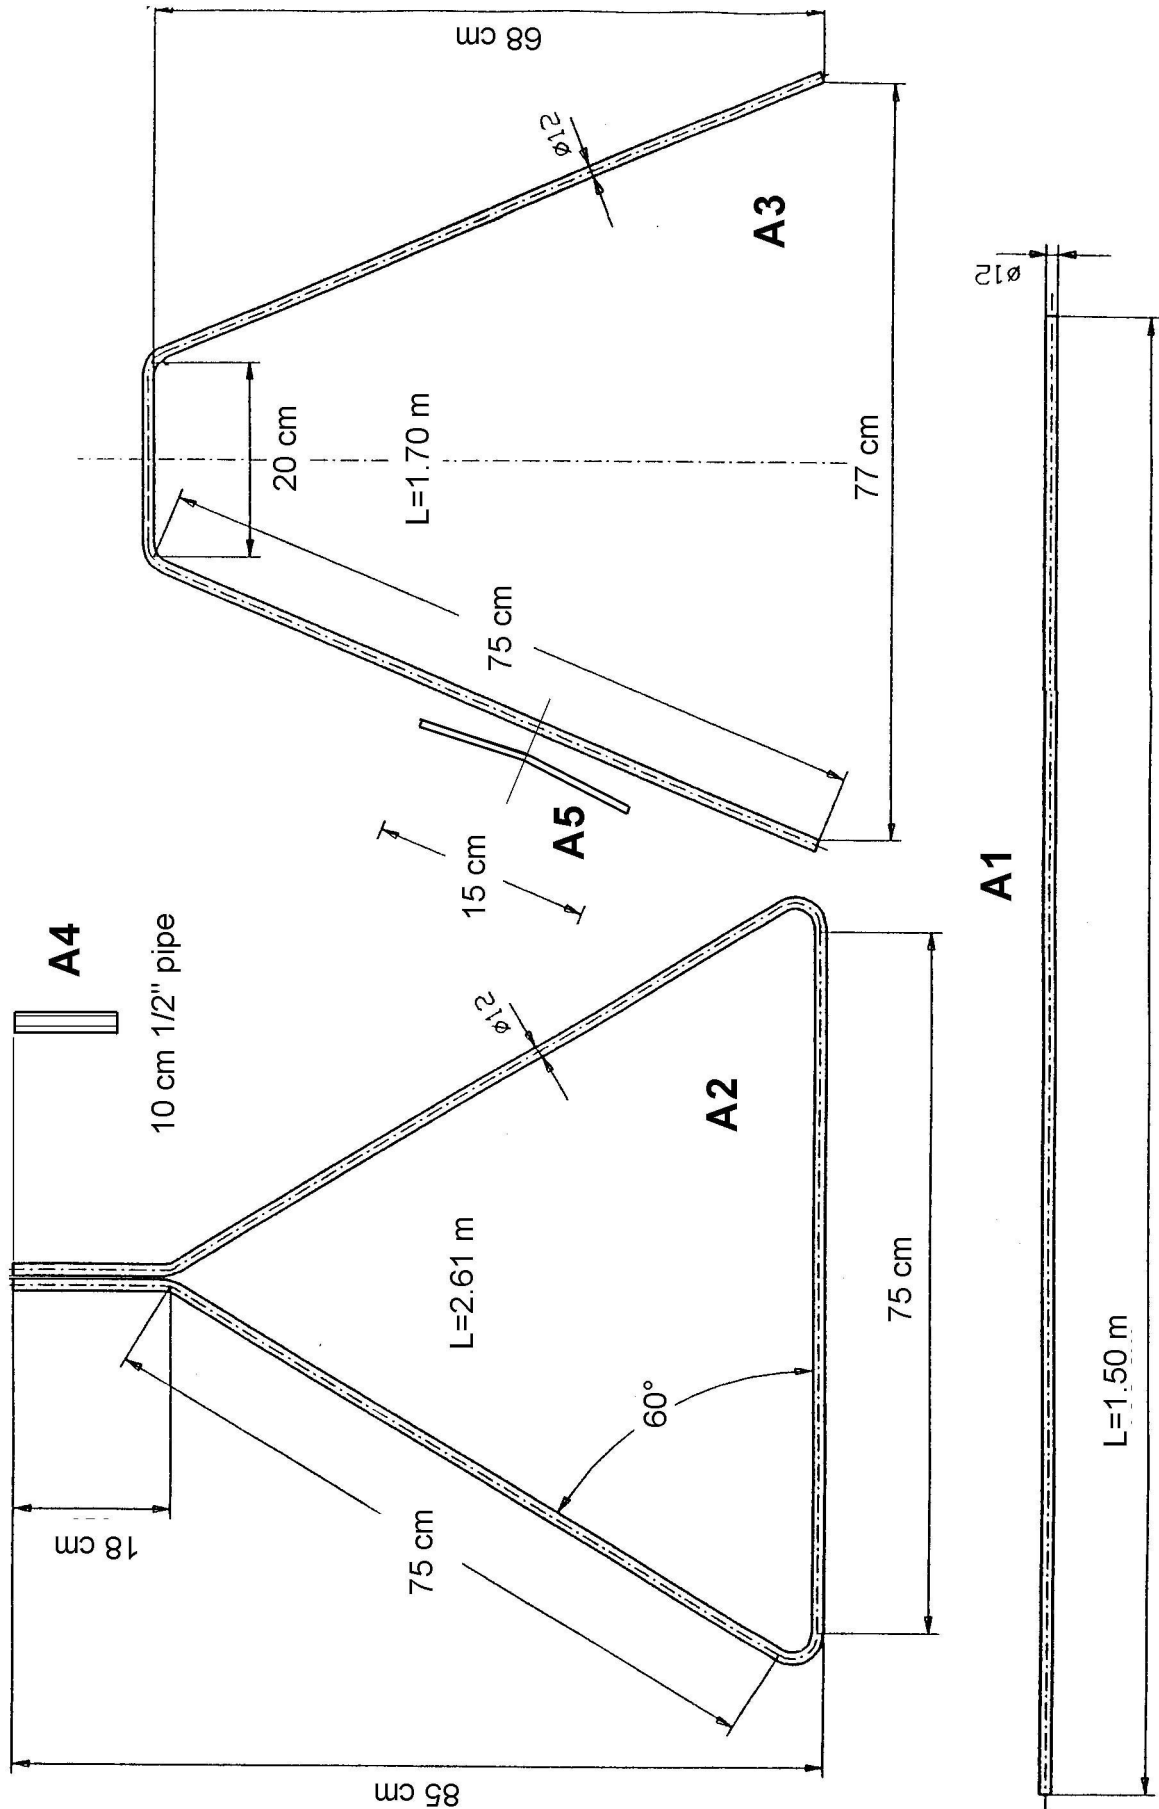

Figure 11: Parts A1, A2, A3, A4 and A5 needed for the cooker foot
1. Cut 2 straight pieces of  $\varnothing$  12 mm material 1.5 m long. These are the parts A1 (see figure 11).
Bend first at the 37 cm points to get a triangle where the ends are crossing each other at the 111 cm points. then bend the short ends after the 111 cm point to be parallel and vertical to the base side of the triangle (see figure 11)
4. Cut 2 straight pieces for A3 of  $\varnothing$  12 mm material 1.7 m long. Mark the two points 74 cm from the ends of the pieces and bend there both ends about 50 degree into the same direction so that the end points are 77 cm apart from each other (see figure 11).